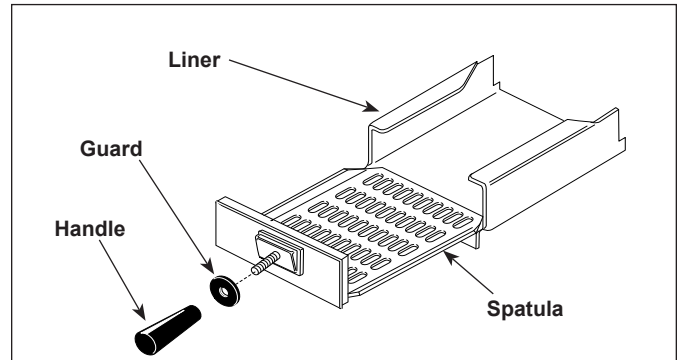

Figure 1. Spatula
4. Remove and wash the Spatula(s) and Liner(s) (Figure 1) in soap and water. Rinse with clean hot water and allow to air dry.
6. Assemble the Handle and Handle Guard to the Spatula(s) (Figure 1).